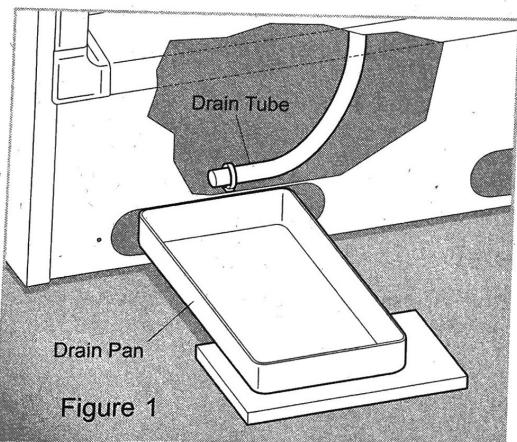

Figure 1
- On **upright models** with a defrost drain (Figure 1), remove drain plug on the inside floor base panel, first remove the two screws from the base panel. Locate the drain tube near the left center under the freezer. Place a shallow pan under the drain tube. Defrost water will drain out. Check pan occasionally so water does not overflow. A  $\frac{1}{2}$  inch garden hose adapter can be used to drain the freezer directly into a floor drain. If your model is not equipped with an adapter, one can be purchased at most hardware stores. Replace the drain plug when defrosting and cleaning are completed. If the drain is left open, warm air may enter freezer.